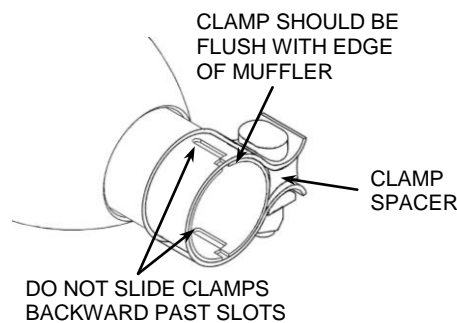

FIGURE 3
10. Once everything is aligned properly tighten the muffler clamp. (NOTE: The muffler clamp should be flush with the end of the muffler when tightened. See **Figure 3**. If the muffler clamp is slid backward past the slots on the muffler slip heatshield will not tighten the muffler properly which may cause an air leak and possible discoloring of the muffler body).